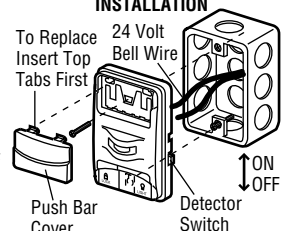

Figure 3
- Strip 7/16" (11 mm) of insulation from one end of bell wire and connect to the two screw terminals on back of door control by color: white wire to WHT and white/red wire to the RED (Figure 3).